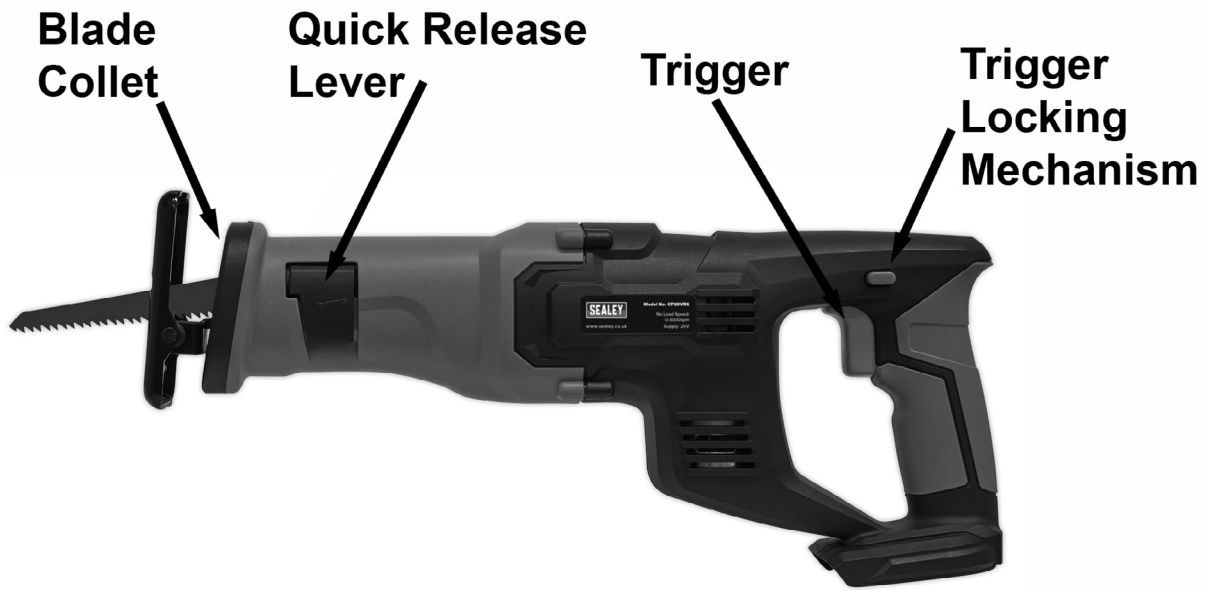

fig.1
- 4.2. **Using the tool (fig.1)**
- 4.2.3. To fit the required saw blade lift the quick release lever (fig.1).
- 4.2.4. Locate the blade into the drive collet (fig.1).
- 4.2.6. Refit battery ensuring that the switch locking mechanism is set to the 'Locked' central position.(fig.1).